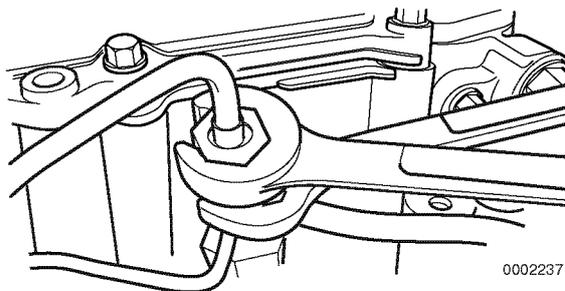

Figure 7-4
5. Next, loosen the fuel line nuts at the fuel injectors. Use one wrench to hold the fuel return line nut and fuel return line from rotating. Use a second wrench to loosen the fuel line nut (**Figure 7-4**). Repeat with the remaining fuel injectors.